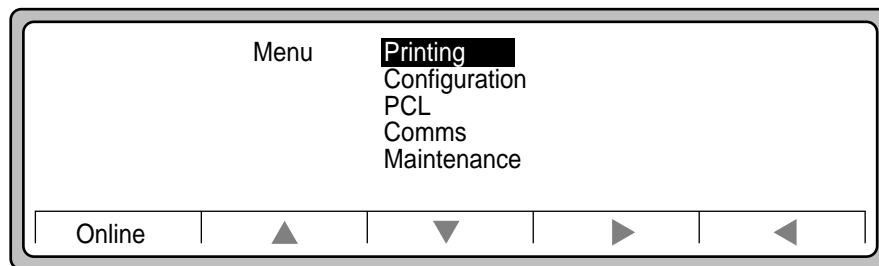

Figure 4-8 Menu
1. Press Menu on the Main Screen. Figure 4-8 is displayed.